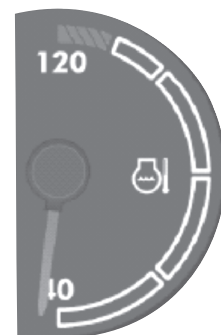

Fig.3-5
3.5 Water Temperature Gauge (Fig. 3-5)